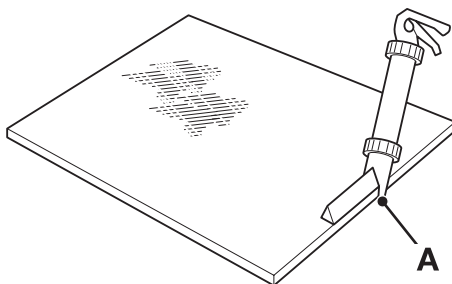

Fig 21.
- 6 Apply the pre-heated adhesive to the glass (do not start in a corner). Keep the nozzle guide **A** against the edge of the glass and make sure that the adhesive forms a continuous 'pyramid' shape. ⇒ Fig 21. \(□ B-30\)